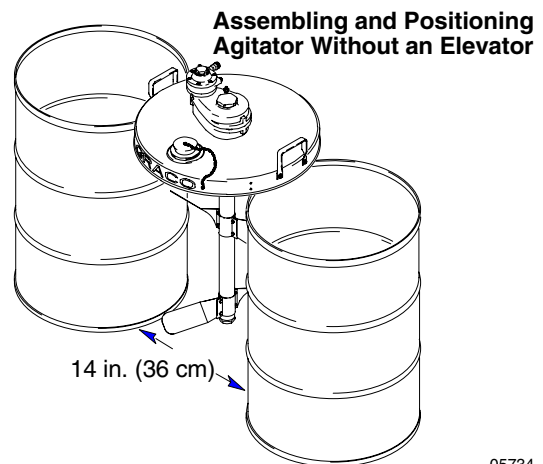

Fig. 2
Place two standard 55 U.S. gallon (45 Imperial gallon) barrels 14 in. (approximately 36 cm) apart, and center the drum cover on the barrels with the Graco logo centered and facing you, as shown in Fig. 2. Proceed to step 1 in **With or Without an Elevator**.
1. Slide the agitator shaft through the large hole in the center of the drum cover (29).
2. Rotate the agitator so that the air motor is to the left of the shaft, as shown in Fig. 2, which will align the three tapped holes in the bottom of the agitator with the three through holes in the drum cover.
3. Thread the three hex head screws (25) up through the drum cover and into the agitator, and torque them to 75 in-lb (8.4 N-m).
4. Assemble one pair of agitator blades (28) so that the four through holes in the blade halves are lined up (see **Parts Drawing** for blade orientation).
5. Push four cap screws (31) through the four holes in the blades, and start the lock nuts (32) onto the cap screws.
7. Tighten the four lock nuts (32) evenly to draw the blades together until they are tight on the shaft. Torque the locknuts to 50 to 55 in-lb (5.6 to 6.2 N-m). A gap will remain between the blade halves.
9. Position the second blade assembly near the bottom end of the shaft, but not on the bottom plug (20).
10. Rotate the lower blade assembly so that it is oriented 90 degrees relative to the upper blade assembly, and torque the lock nuts (32) to 50 to 55 in-lb (5.6 to 6.2 N•m). A gap will remain between the blade halves.